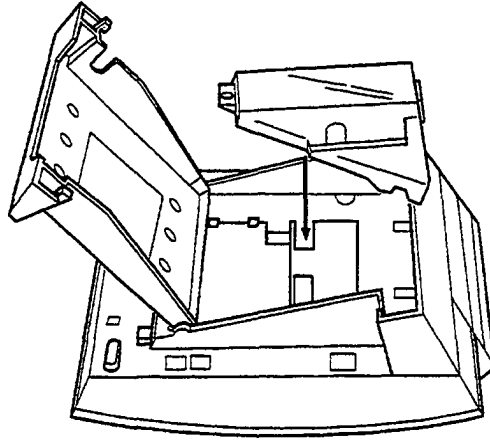

Figure 4-13 Attaching the Unit to the Multiline Terminal
4. Plug the receptacle connector on the unit into the receptacle connector inside the tilt panel on the Multiline Terminal. Refer to Figure 4-13 Attaching the Unit to the Multiline Terminal.